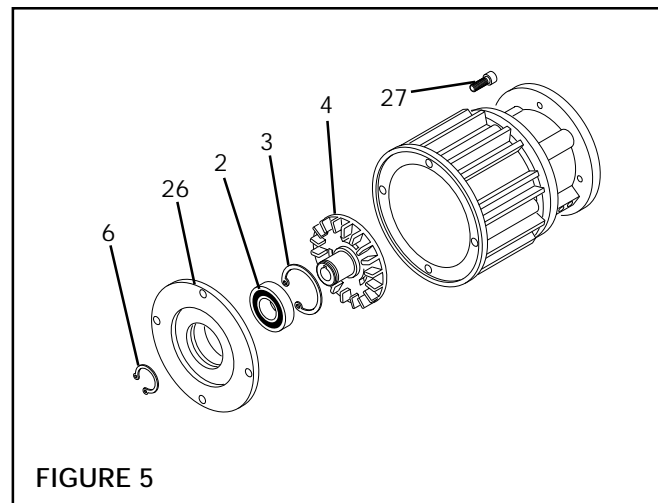

FIGURE 5
1. Remove the four Socket Head Cap Screws (Item 27) and slide the Female Pilot (Item 26), Ball Bearing (Item 2), and the Drive Disc (Item 4) out of the FMCE (See Figure 5).
2. Remove the Retaining Ring (Item 6) (See Figure 5).
3. Press the Drive Disc (Item 4) out of the Ball Bearing (Item 2) and the Female Pilot (Item 26) (See Figure 5).
4. Remove the Retaining Ring (Item 3) (See Figure 5).
5. Fully supporting the Female Pilot (Item 26), press the old Ball Bearing (Item 2) out of the Female Pilot (Item 26) (See Figure 5).
6. Clean the bearing bore of the Female Pilot (Item 26) with fresh solvent, making sure all old Loctite[®] residue is removed (See Figure 5).
7. Apply an adequate amount of Loctite[®] 680 to evenly coat the outer race of the new Ball Bearing (Item 2) (See Figure 5).
8. Carefully align the outer race of the new Ball Bearing (Item 2) with the bore of the Female Pilot (Item 26) (See Figure 5).
9. Supporting the Female Pilot (Item 26) and pressing on the outer race of the new Ball Bearing (Item 2), press the new Ball Bearing into the Female Pilot (See Figure 5).
10. Reinstall the Retaining Ring (Item 3) (See Figure 5).
11. Support the inner race of the new Ball Bearing (Item 2) and press the Drive Disc (Item 4) into the new Ball Bearing and Female Pilot (Item 26) (See Figure 5).
12. Reinstall the Retaining Ring (Item 6) (See Figure 5).
13. Apply a drop of Loctite[®] 242 to the threads of the Socket Head Cap Screws (Item 27) (See Figure 5).
14. Slide the Female Pilot (Item 26), Ball Bearing (Item 2), and Drive Disc (Item 4) into the FMCE and reinstall the four Socket Head Cap Screws (Item 27) (See Figure 5).